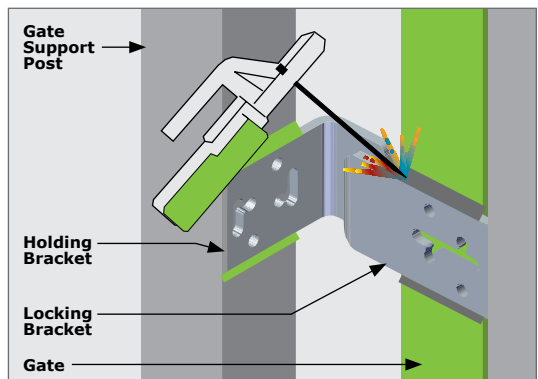

FIGURE 13. SUPPORT POST - WELDING
- Welding the **Locking Bracket** onto the Gate (Highly recommended) - See Figure 13.